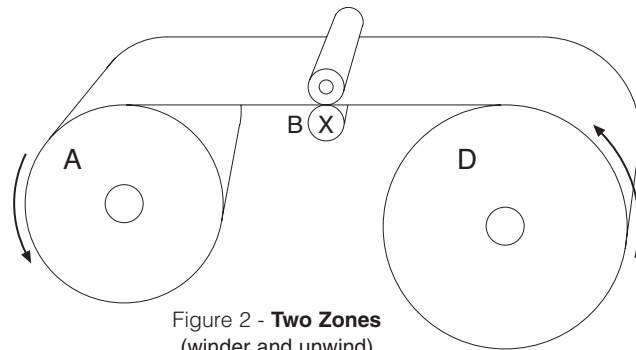

Figure 2 - Two Zones
II. More commonly, a machine will have driven nip rolls in the center, or processing section (see Fig. 2). A simple slitter/rewinder is an example. In this case, there are two separate tension zones to deal with and the tension levels may be different in each zone. Different tension levels are possible because the web is captured at the driven nip rolls, thus creating separate and distinct unwind and rewind zones. The driven nip rolls (B) will typically be powered by a motor drive that establishes machine line speed. Processing tension will be controlled by a brake system at the unwind (D), and a clutch or motor drive will control the winder tension (A). Again, the method of control will be dictated by the accuracy of tension control required in each zone. If process tension levels can vary by 10% or greater, a simple open loop brake control system may suffice. More accurate control would require a closed loop system, such as dancer or load cell feedback. Likewise, in the winder zone, open loop control may be sufficiently accurate, or closed loop or taper tension control may be required.